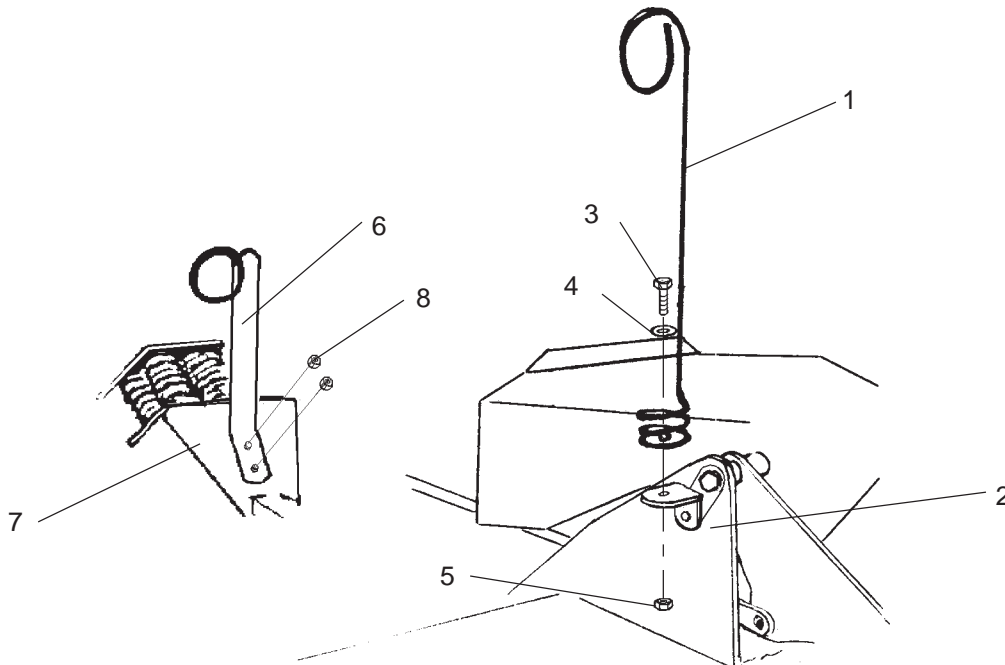

FIGURE 5. Hose Bracket mounting
Hose Brackets are attached in the front and rear of the cutter. The Front Hose Bracket (1) attaches to the Hose Bracket Mounting on the right side of the tongue mount (2) with Bolt (3), Washer (4) and Nut (5). The Rear Hose Bracket (6) mounts to the Lower Center Axle Spring Mount (7) with Bolt and Locknut (8) **FIGURE 5.**